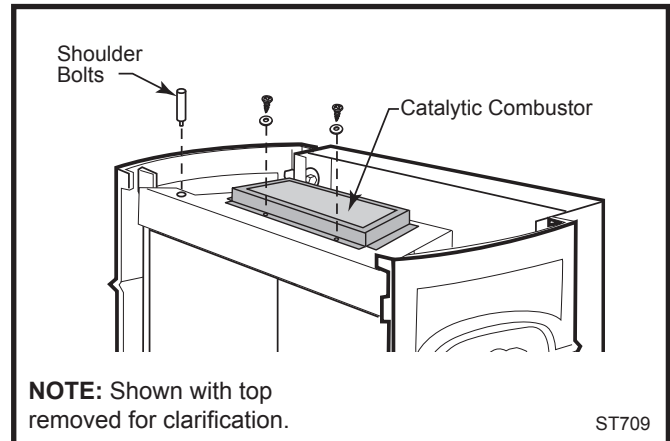

Fig. 13 Install shoulder bolts and set catalytic combustor in place.
6. Slide the catalyst through the grille opening. Set catalyst on top of firebox. Secure with two (2) screws and washers. (Fig. 13)
7. Shoulder bolts provided in catalyst kit must be installed on top of firebox. Use nut to secure in place. (Fig. 13)